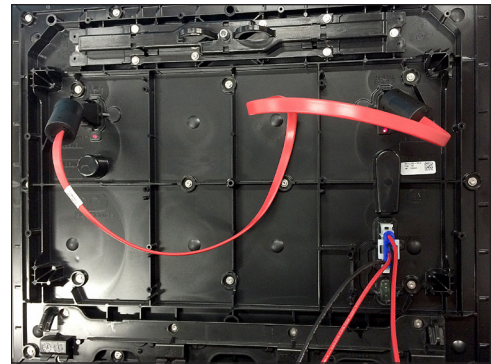

Figure 20: Module Self Test
1. Attach a signal cable to Port A and Port B on the module, as shown in **Figure 20**.